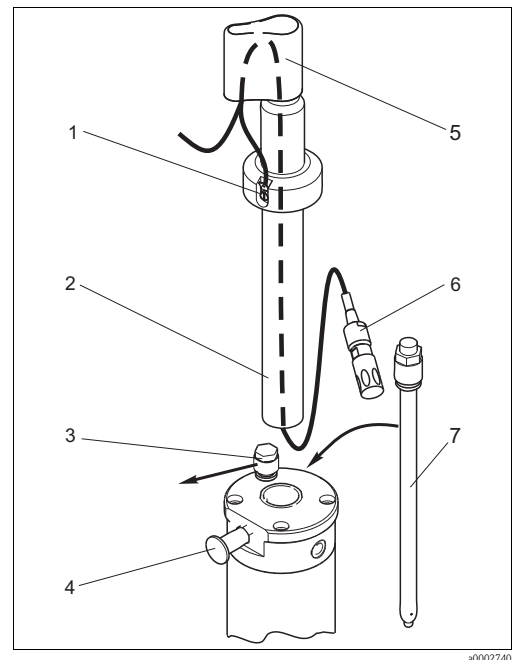

Fig. 14: Sensor installation
1. Remove the splash protection cap (→ Fig. 14, pos. 5) from the assembly.
2. Then loosen the retractable pipe (pos. 2) by turning it anticlockwise.
3. Install the sensor (pos. 7) instead of the dummy plug (pos. 3):
4. Insert the measuring cable through the retractable pipe (pos. 2):